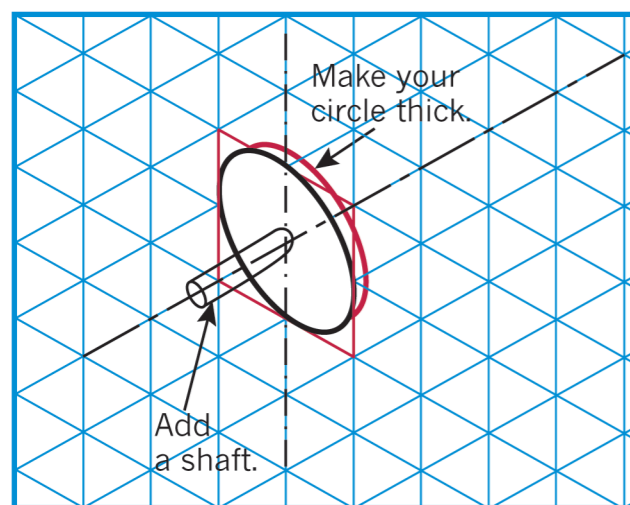

Figure 17
Step 7: Now see if you can draw one for yourself. Copy the diagram in Figure 17 onto isometric grid paper.